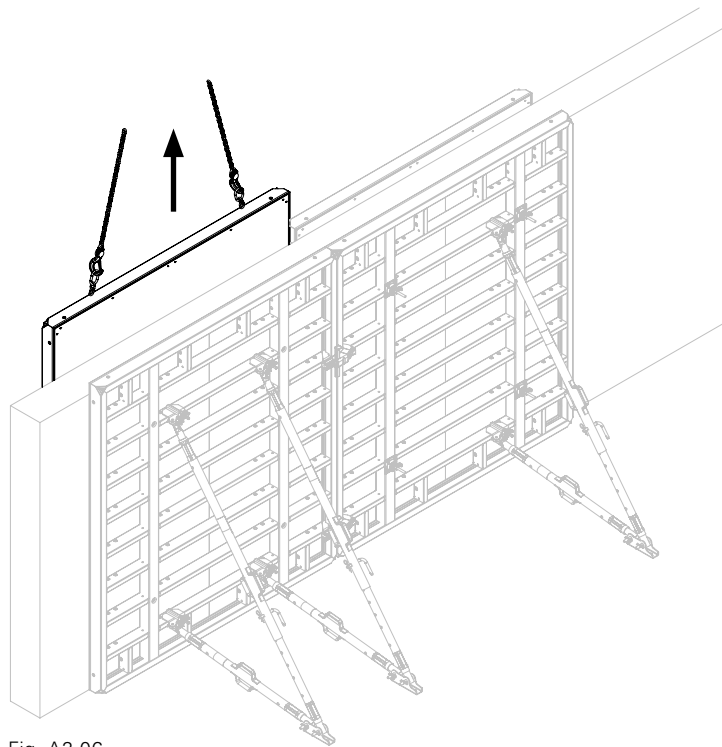

Fig. A2.06
5. Release panel from the concrete, e.g. with the stripping bar.g. (Fig. A2.06)